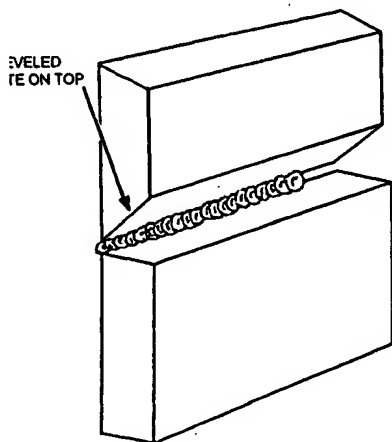

Figure 7-33.—Horizontal butt joint.
**BUTT JOINTS.**— Most butt joints, designed for horizontal welding, have the beveled plate positioned on the top. The plate that is not beveled is on the bottom and the flat edge of this plate provides a shelf for the molten metal so that it does not run out of the joint (fig. 7-33). Often both edges are beveled to form a 60-degree included angle. When this type of joint is used, more skill is required because you do not have the retaining shelf to hold the molten puddle.